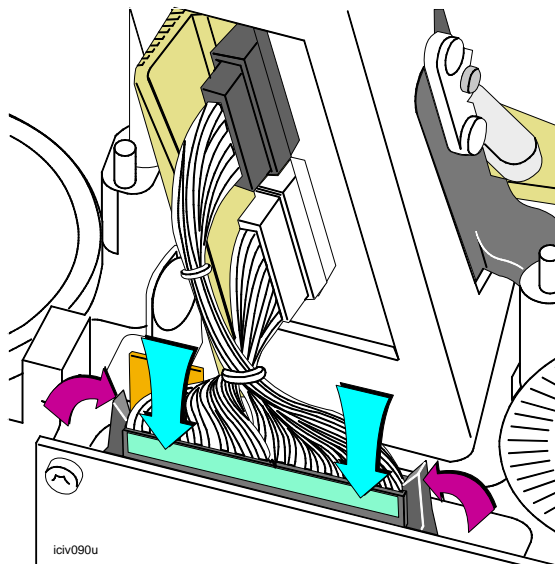

Figure 7-20: Attaching the printhead cable to the board
- 7 Press the printhead cable into the connector on the printhead board until it is seated (Figure 7-20).